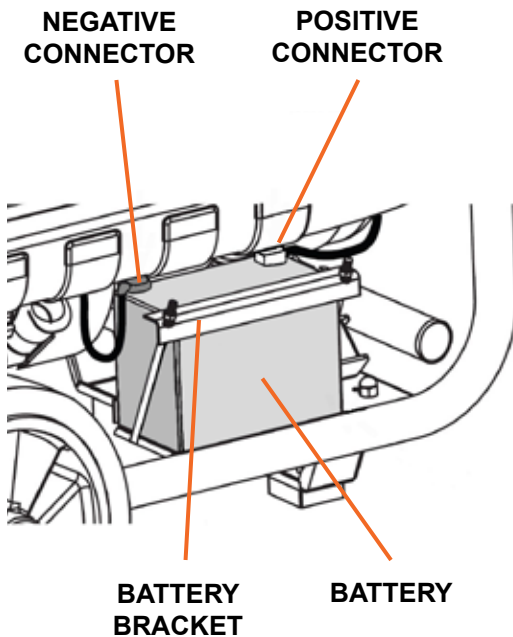

Figure 5
1. Place a fully charged, lead-acid 12V, 9 Ah battery on the battery holder on the generator (see Figure 5).